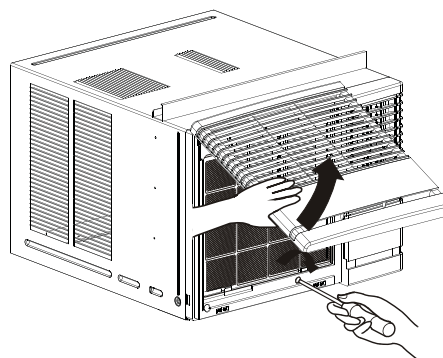

Fig.11
14. Pull down the inlet grille and secure it with a Type A screw ① through the front grille. (Fig. 11)